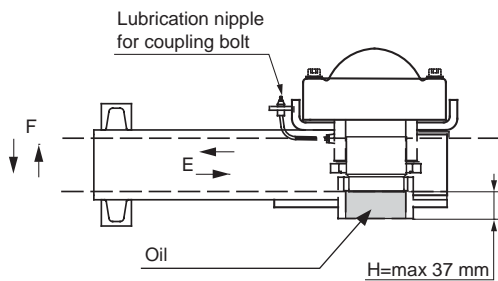

Figure 8
- Check that the coupling bolt of the air cylinder drops into place in its locking location at each position. Dimension H (see figure 8) must be max. 37 mm when locked.
- The lubrication point indicated on figure 8 must be lubricated once a week. Lubrication must be carried out with the coupling bolt raised. Check the operation of the coupling bolt after lubrication. The coupling bolt and bush must be lubricated from below with VBG oil between service intervals.